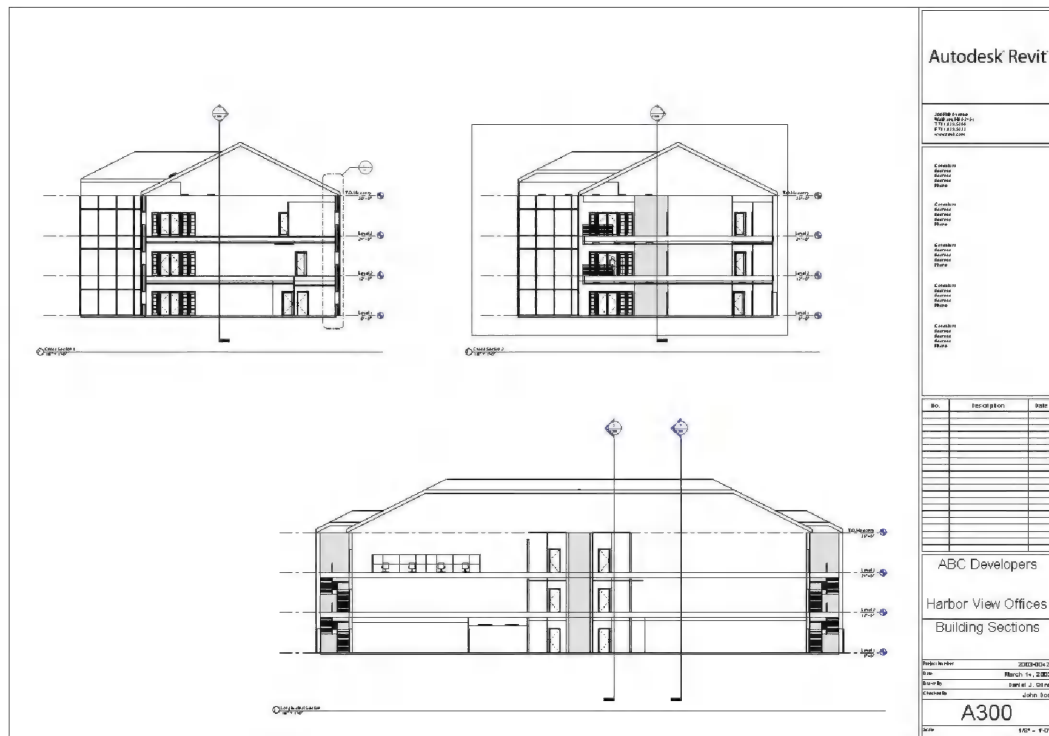

FIGURE 14-1.9 Sheet A300 building sections
26. Add the three building sections as shown in **Figure 14-1.9**.
You can also see in Figure 14-1.9 (above) that the reference bubbles on the building sections are filled in.